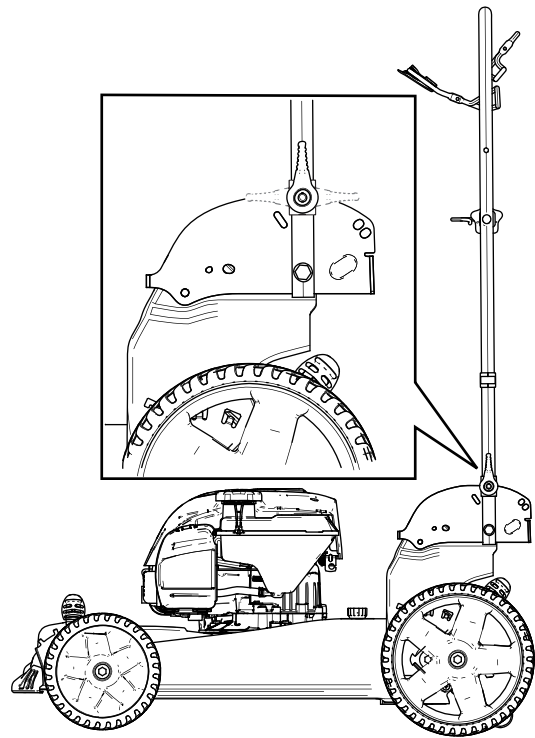

Figure 23
3. Fold the handle forward either to the vertical position or the fully forward position as shown in Figure 23.